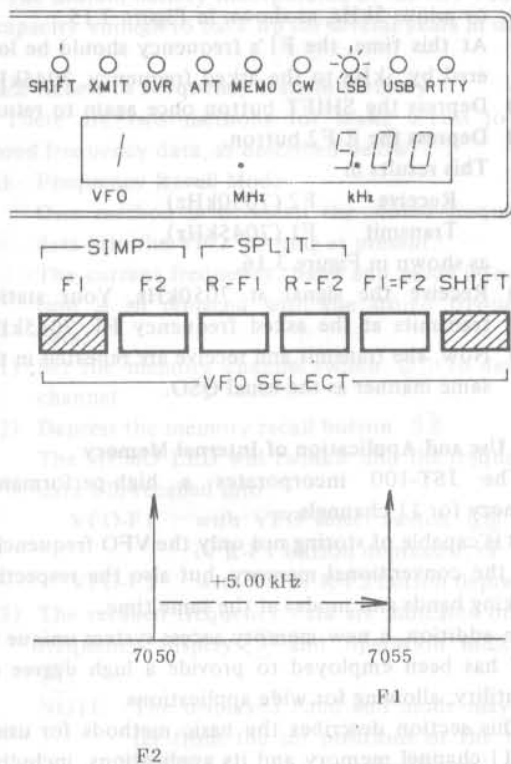

Figure 3.12
- (4) Read the displayed frequency of 7055kHz.
- (5) If desired, depress the SHIFT button to read the frequency difference between F1 and F2, say, shifted frequency, as shown in Figure 3.12.
- (6) Depress the SHIFT button once again to return.
- (7) Depress the R-F1 button.